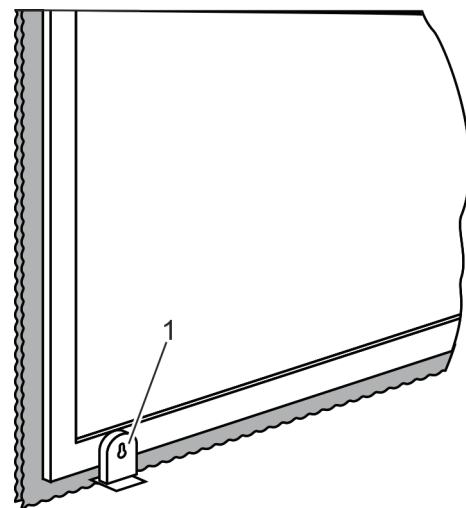

Fig. 41 Floor locking device (example)
1. Align the wing with floor locking device (Fig. 41).
2. Unlock the floor locking device (Fig. 41/1) of the wings. Make sure that the floor locking device (Fig. 41/1) has been locked with two full revolutions.